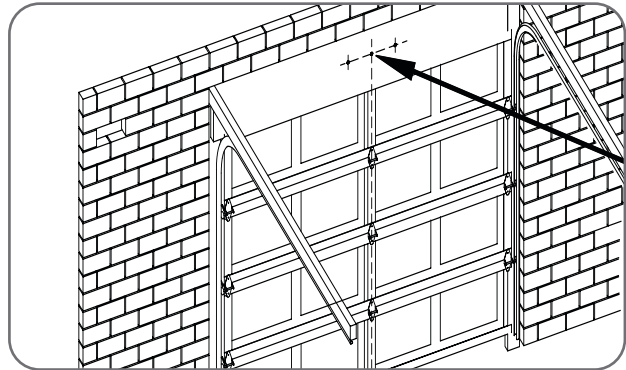

Fig 6.1
- Determine the centre of the door and mark this point on the wall above (**Fig. 6.1**).